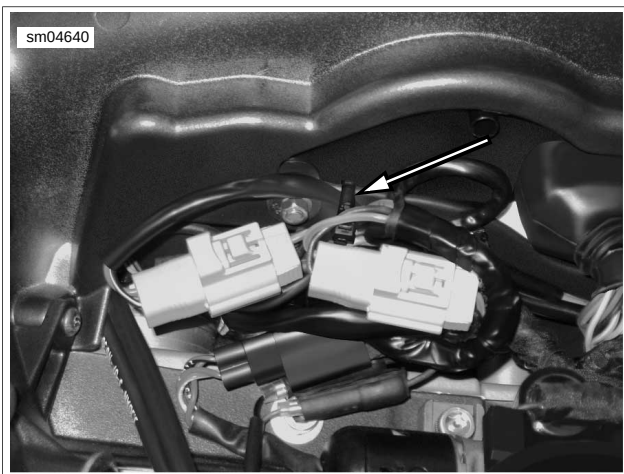

Figure 7-35. Location of Cable Strap Attached to Instrument Cluster
9. See Figure 7-35. To ensure the wire bundles and connectors are not just hanging. Apply one more wire tie beneath the upper dash casting and around the bundle of wires and connectors to secure them up against the upper casting.